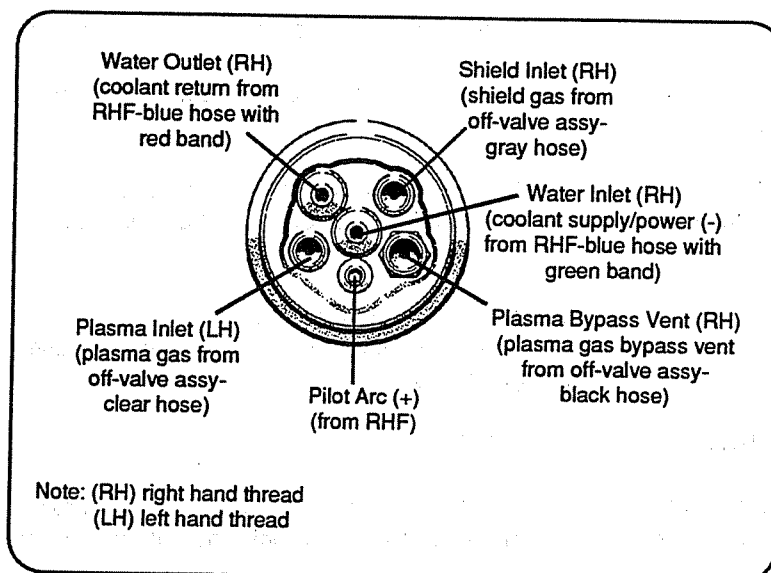

Figure 2 PAC182 Torch Connections
3. Disconnect hose and pilot arc fittings using wrenches. Always use two wrenches to disconnect fittings. Hold the fittings on the torch end and turn the fittings on the hose ends. Using one wrench can cause major damage to torch. Fig. 2